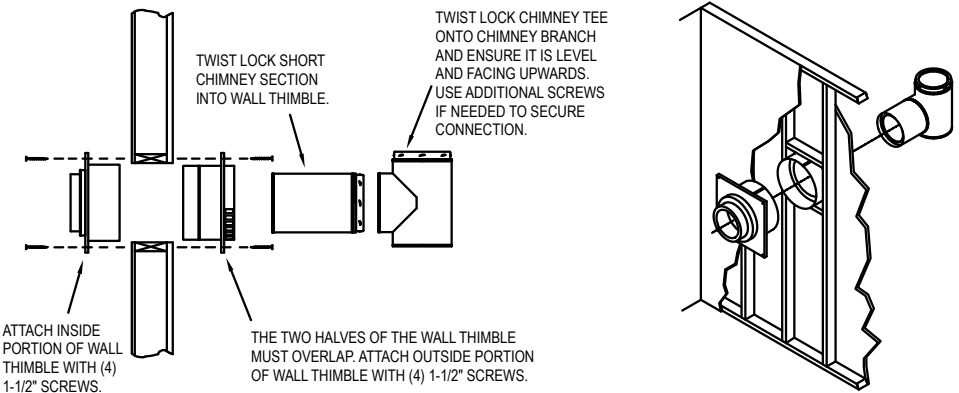

Figure 11
Step 2. Install CAS Wall Thimble. Cut and frame an opening in the wall for the CAS Wall Thimble. Refer to **Table 1** for framing dimensions. Install the black-painted inside portion of the CAS Wall Thimble into the framed opening. Secure the CAS Wall Thimble with (4) 1-1/2" wood screws through the holes on the face of the Thimble. Install the outside portion of the CAS Wall Thimble by sliding the radiation tube into the tube of the inside portion of the Wall Thimble (**Fig 11**). Important: the Wall Thimble must have a continuous tube through the wall for a safe installation. The CAS Wall Thimble can accommodate walls up to 12" thick. If the wall is too thick for the two halves of the CAS Wall Thimble to reach each other, a field-fabricated tube of 26-gauge galvanized steel (or better) must be made to bridge the gap between the two halves. Slide
Step 5. Install the chimney branch through the wall. A horizontal section of chimney is needed to go through the wall and twist lock into the CAS Wall Thimble. Depending on your wall thickness, use a section of chimney that will reach from the Wall Thimble to the outside. Connect the chimney Tee to the horizontal chimney section (**Fig 11**). Support the chimney